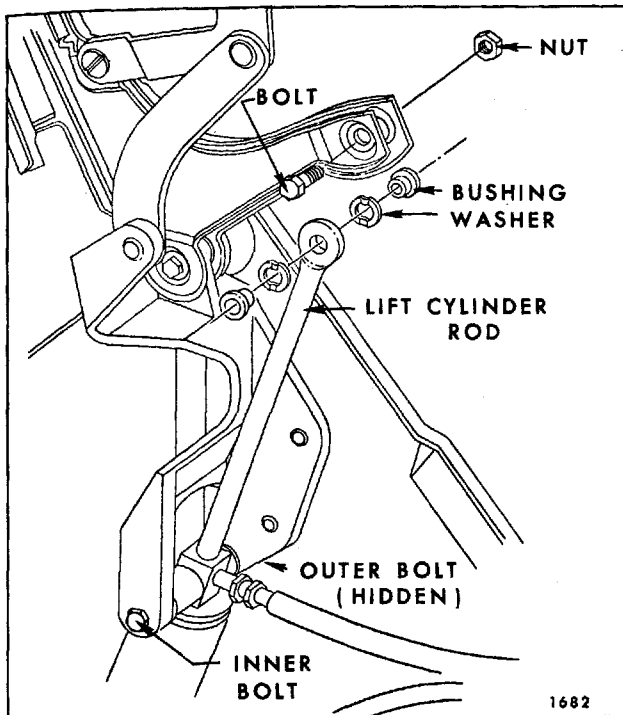

Fig. 6-70—"B and C" Body Hydraulic Lift Cylinder Attachment
7. Remove inner and outer bolt securing cylinder to male hinge (Fig. 6-70).